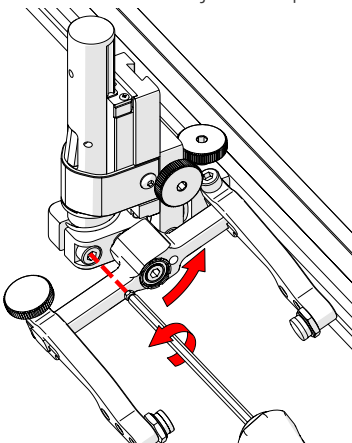

Fig. 115 - Loosen 3 mm screw
- Using the supplied 3 mm hex driver loosen the transverse adjustment screw (Fig. 115) and rotate the yoke about the vertical shaft achieving the desired angle.